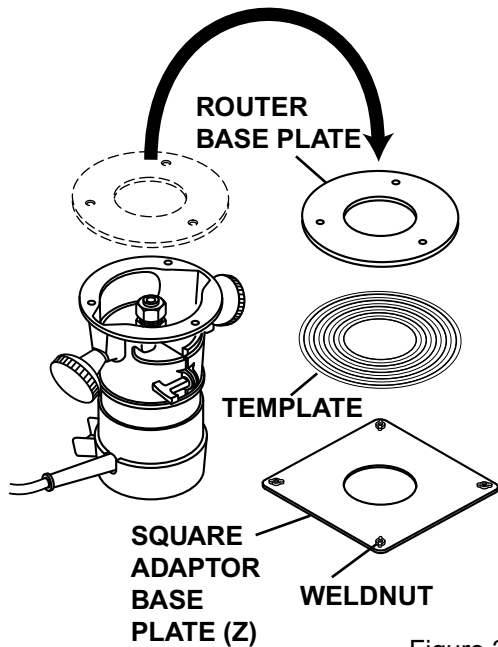

Figure 21
4. Use tape to attach template to the square adaptor base plate (Z).
7. Turn the router base plate over and position it face down on the template, which is still taped to the square adaptor base plate. The position of the base plate must line up with one of the circles on the template. See Figure 21.